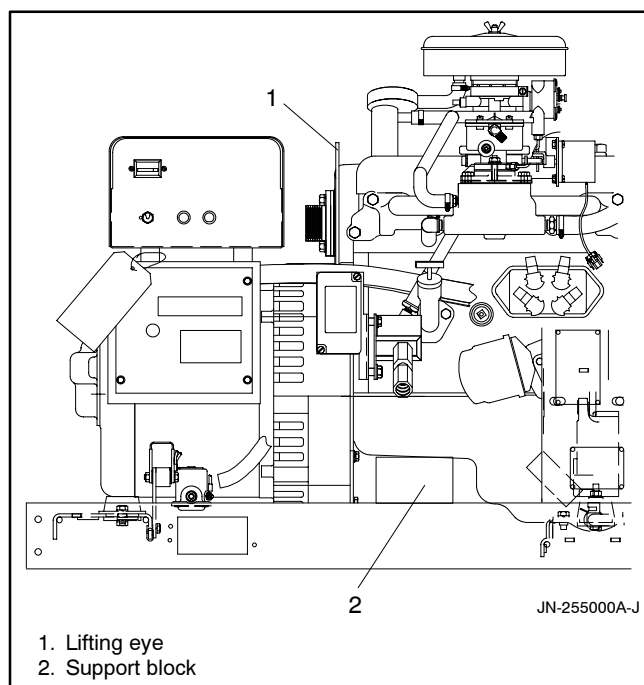

Figure 6-3 Engine Support Block
9. Use a hoist attached to generator lifting eye to raise generator high enough to place support block beneath engine oil pan. See Figure 6-3. To remove end bracket, place additional support beneath stator assembly.